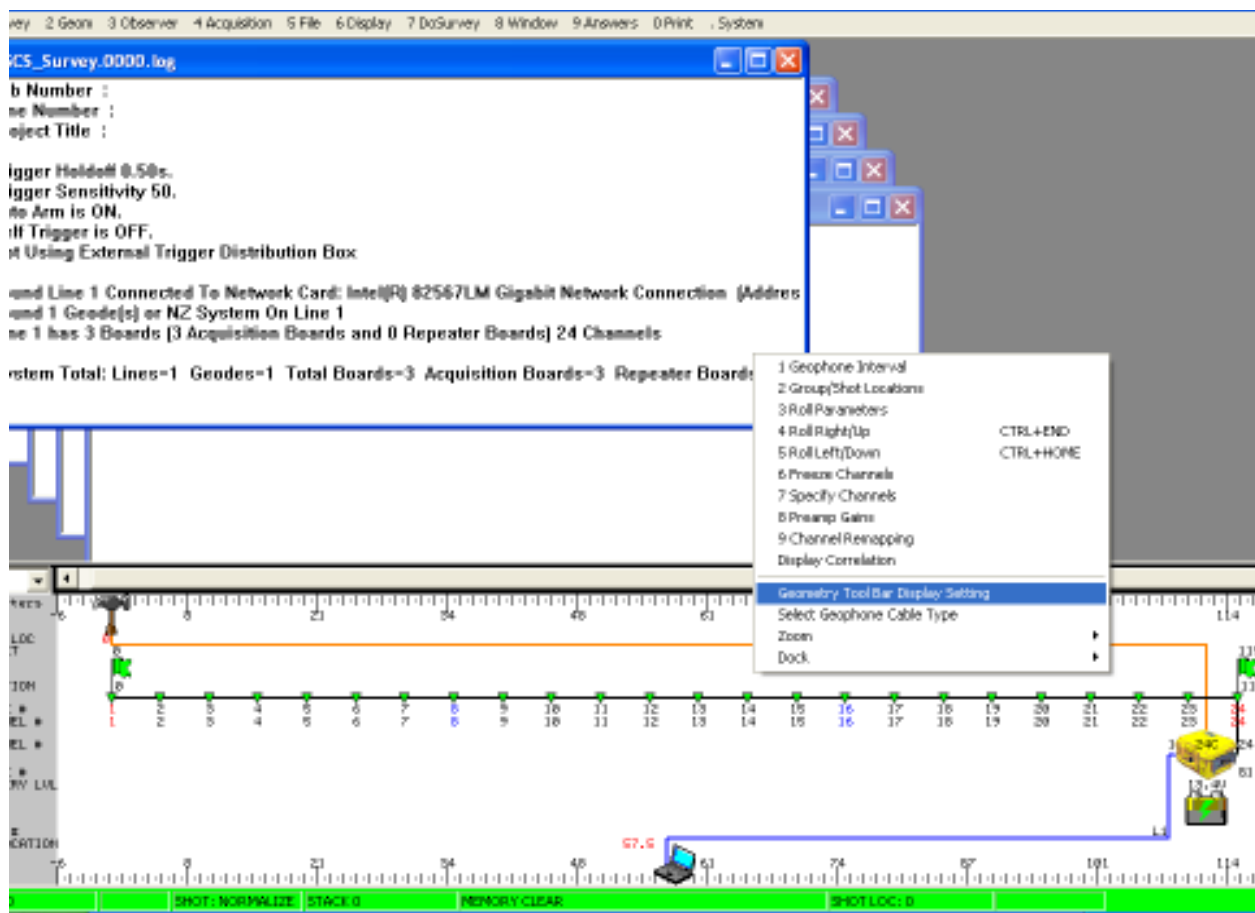

Figure 3 Selecting Display Settings
1. Right click on the Geometry toolbar at the bottom and select Display settings (see Figure 3)
**Tips:** Default setting has Geophone-1/channel-1 starting at the pigtail end of the cable. I prefer to reverse the order and have channel-1 starting at the first Geode location. To reverse the channel sequence, select the Channel Remapping option in the Geometry Toolbar Settings shown in Figure 3. Check the Enable Channel Remapping box and also check the Reverse Channel Order box up top. Don't forget your Hot Keys. They are an easy and powerful way to navigate complicated software. Ideally, once you are set up you should be able to run the entire survey using only 4 Hot Keys. When working on a field course survey with students, for example, you may have some false trigger or bad hammer swings. In this case it might be useful to turn off the Auto Save and use the Hot Keys to save and erase only the known good data files/hammer strikes.